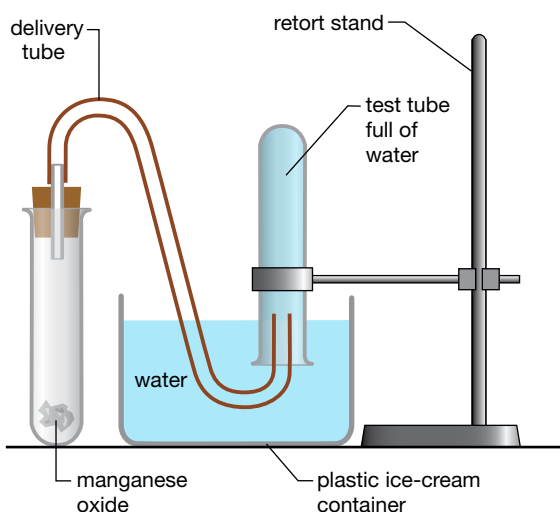

Figure 2.1.8
- 1 Use the electronic scale to measure out approximately 1 g of manganese(IV) oxide pellets.
- 3 Set up the equipment as shown in Figure 2.1.8.